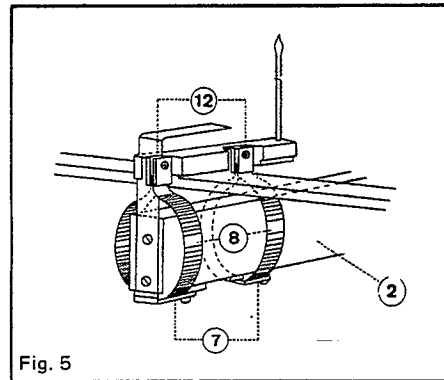

Fig. 5
First flatten the aluminium strips ⑧, loosen the cross-head screws of the contact plates ⑫, insert the aluminium strips and then tighten the screws again (see Fig. 5).